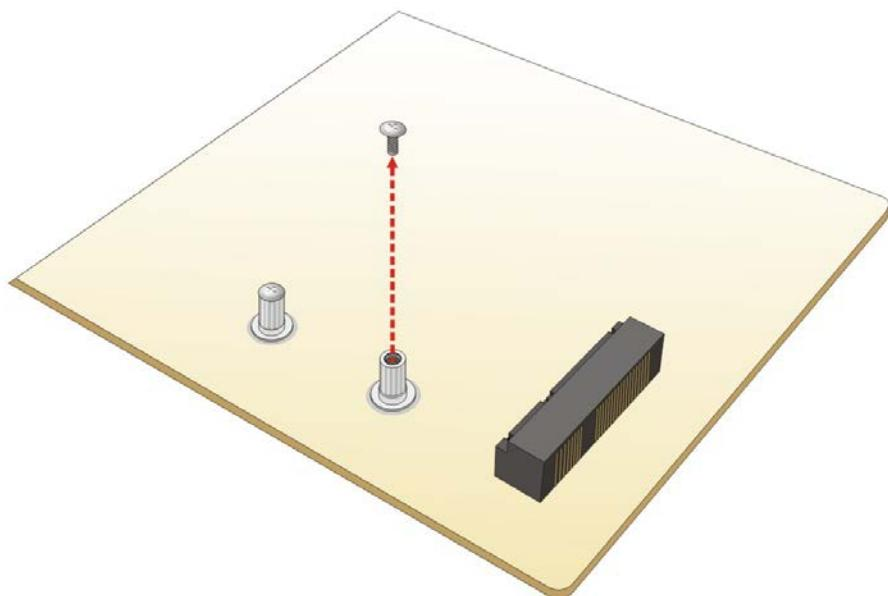

Figure 4-11: Removing the Retention Screw
**Step 2:** Remove the retention screw. Remove the retention screw as shown in **Figure 4-11**.